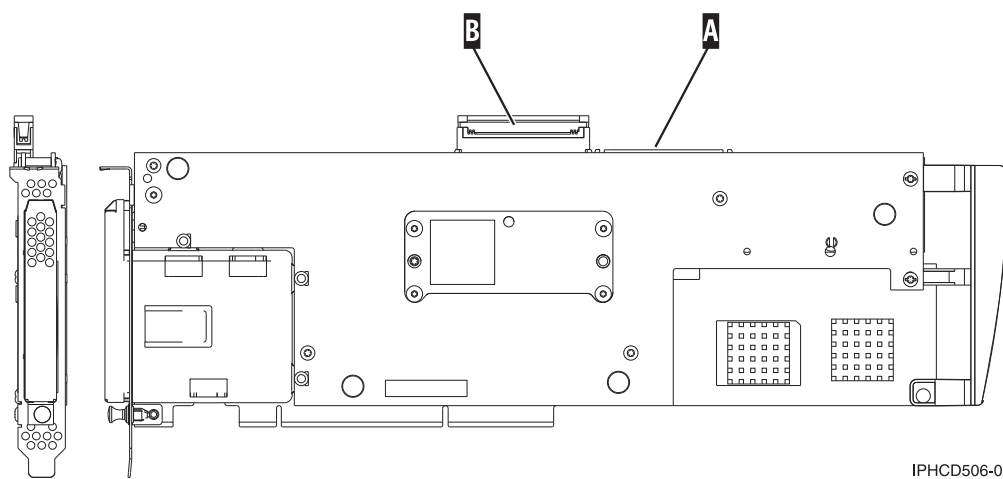

Figure 35. 5708, auxiliary-write cache IOA
2. Attach the cable to SCSI port **A** on the auxiliary-write cache adapter. See Figure 35 on page 149.